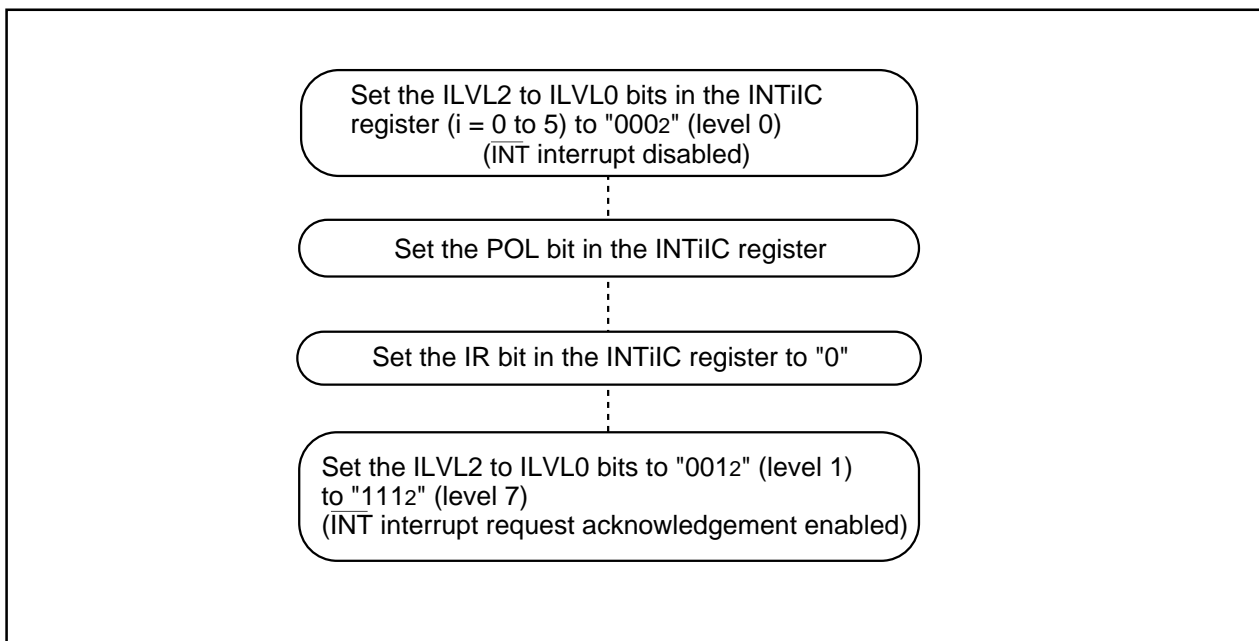

Figure 27.1 Switching Procedure for $\overline{\text{INT}}$ Interrupt
- The IR bit may change to "1" (interrupt requested) when switching the polarity of the $\overline{\text{INT}}_0$ to $\overline{\text{INT}}_5$ pins. Set the IR bit to "0" (no interrupt requested) after selecting the polarity. Figure 27.1 shows an example of the switching procedure for the $\overline{\text{INT}}$ interrupt.